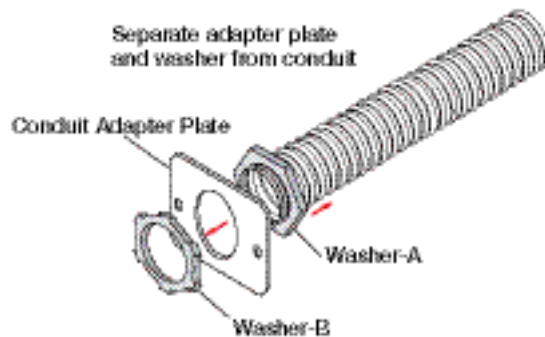

Figure 8. Removing the Existing Adapter Plate
6. Remove the washer at the end of the conduit (see Washer-B in figure 8), and remove the conduit adapter plate that ships attached to the conduit.